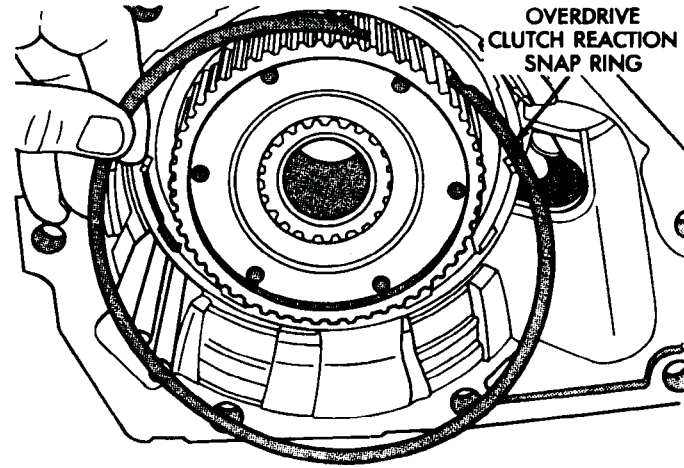

Fig. 8 Overdrive Clutch Reaction Snap Ring Removal
(8) Remove overdrive clutch reaction snap ring (Fig. 8). Note that snap ring is located in same groove as wave spring.